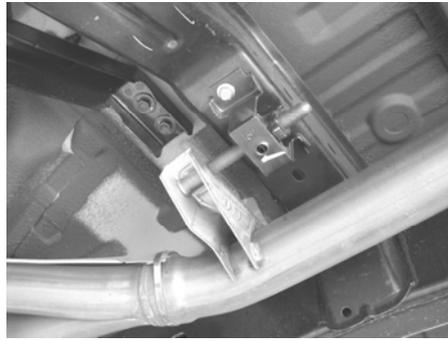

**Figure 2**
3. Using a muffler stand or an additional person to hold the tail pipe up in place, remove the hanger from the rubber bracket and remove the tail pipe from the vehicle as shown in figure 2.